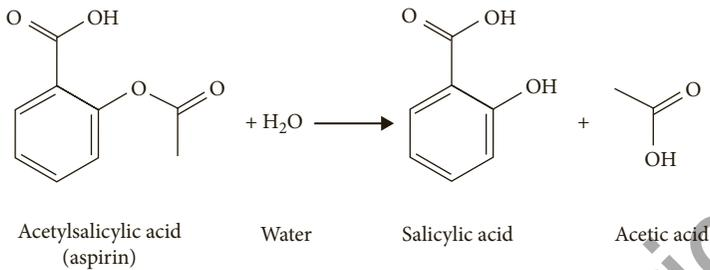

Figure 1.1 Hydrolysis of aspirin
- *Chemical stability*: The drug structure remains the same throughout the shelf life. Drugs in solution are particularly susceptible to chemical reactions that will change their structures (Figure 1.1).